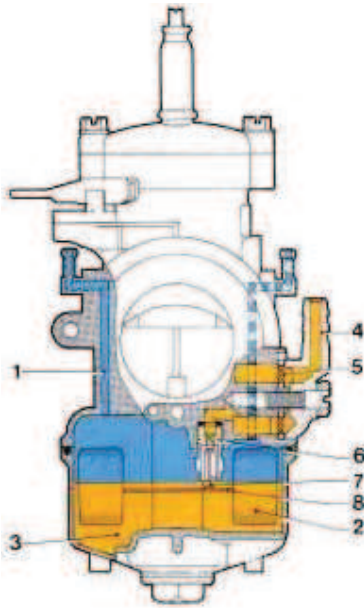

fig.9
Further, check that fuel filter (5) in the union banjo (4) of the Carburetor is clean. Fuel from the tank supplies the Carburetor (fig.9) through a valve in which a float-controlled needle operates (2).